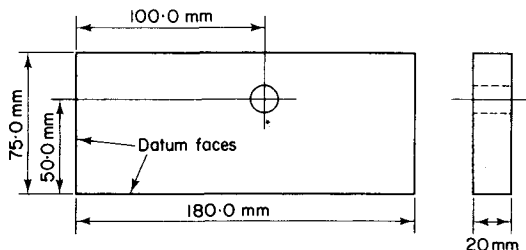

Fig. 3.95 Use of datum faces
**Datum faces.** Fig. 3.95 shows the dimensioning of a plate detail. The length, width and thickness of the plate are *size* dimensions and so is the diameter of the hole. It will be noticed that the dimensions *locating* the position of the hole are given from two edges of the plate, i.e. the bottom edge and the left-hand edge. These edges are called *datum faces* since we must use these in positioning the hole.